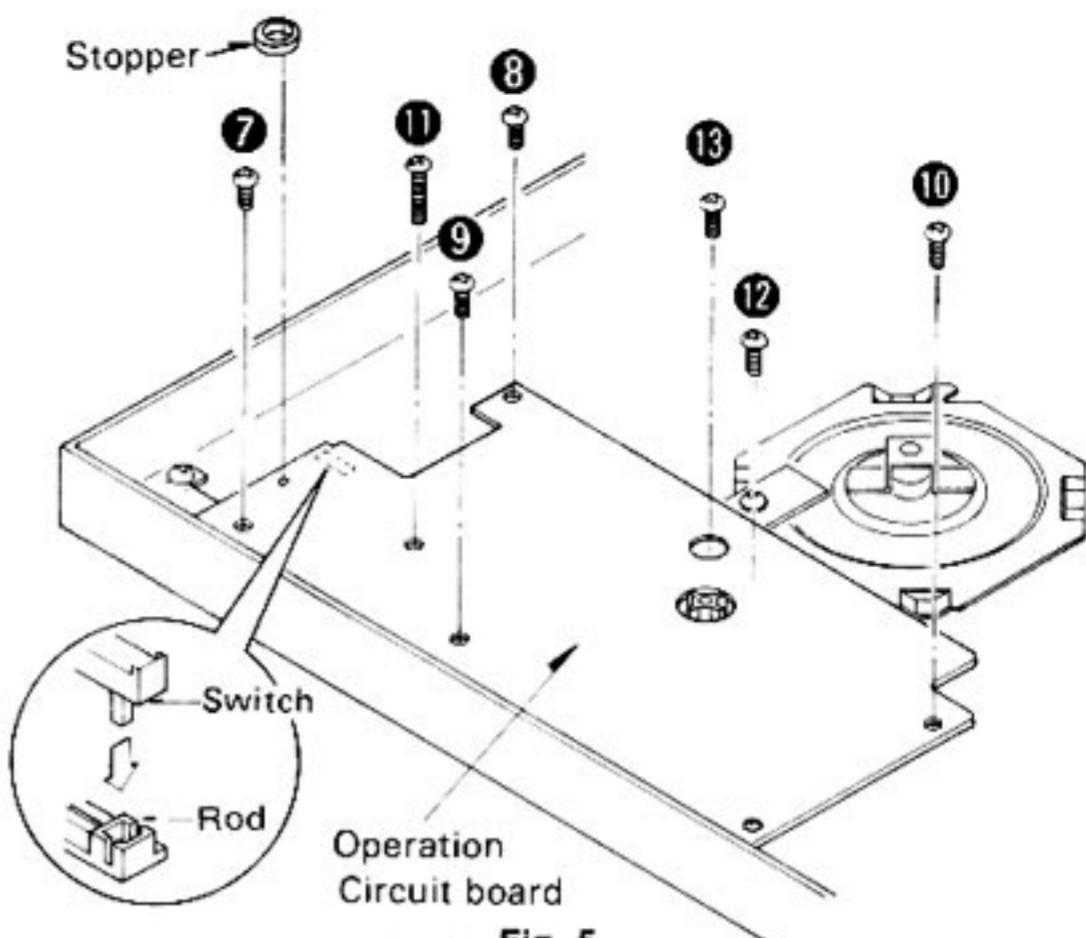

Fig. 5
2. Remove the 7 operation circuit board setscrews Fig. 5: ⑦~⑬) and the stopper.